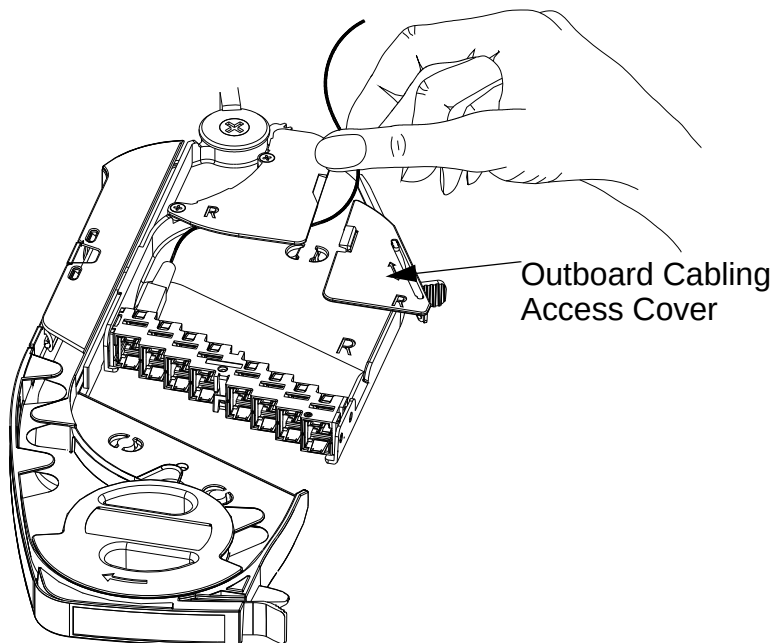

Figure 41 - Routing Cable to Breakout Area
8. When finished with one tray, slide closed the outboard cabling access cover shown in Figure 41.